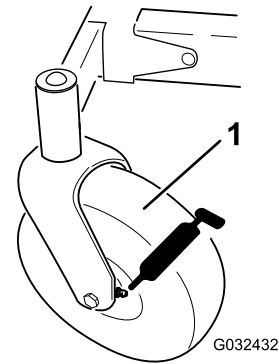
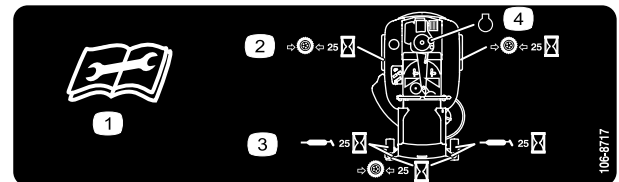

Figure 26
Figure 27
3. Clean the grease fittings (Figure 26 and Figure 27) with a rag.
4. Connect a grease gun to each fitting (Figure 26 and Figure 27).